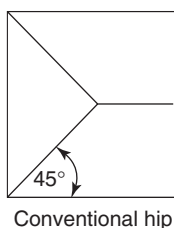

Figure 19–1
Hip rafters may be classified as *conventional* or *unconventional*. A *conventional hip rafter* makes a 45° angle with the two adjacent walls that form the corner of the building. The angle referred to lies in the plane across the top plates. Think of it as the shadow the hip rafter casts when the sun is directly overhead (see Figure 19–1). An *unconventional hip rafter* makes an angle with the two adjacent walls that is something other than 45° . Discussion of the unconventional case is deferred to a later chapter.
Setback (SB) is the distance along the top plate from the corner to the position of the first full-length common rafter (see Figure 19–2). Note that in the conventional case,